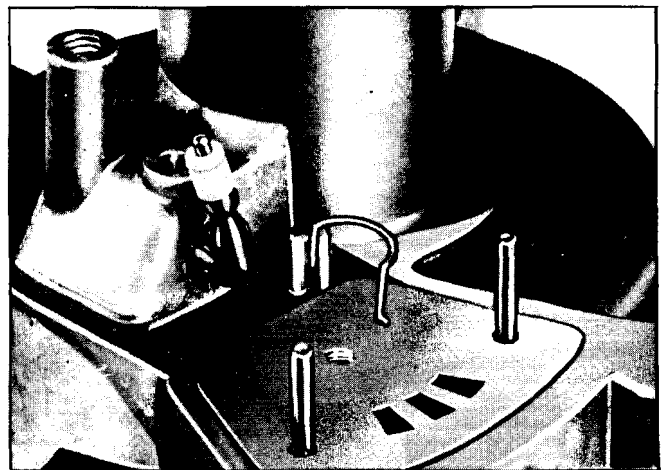

Fig. 4-44 Installing Valve Tension Spring in Boss
3. Install longer foot of valve tension spring in boss on first stage housing, being careful not to distort spring (Fig. 4-44).